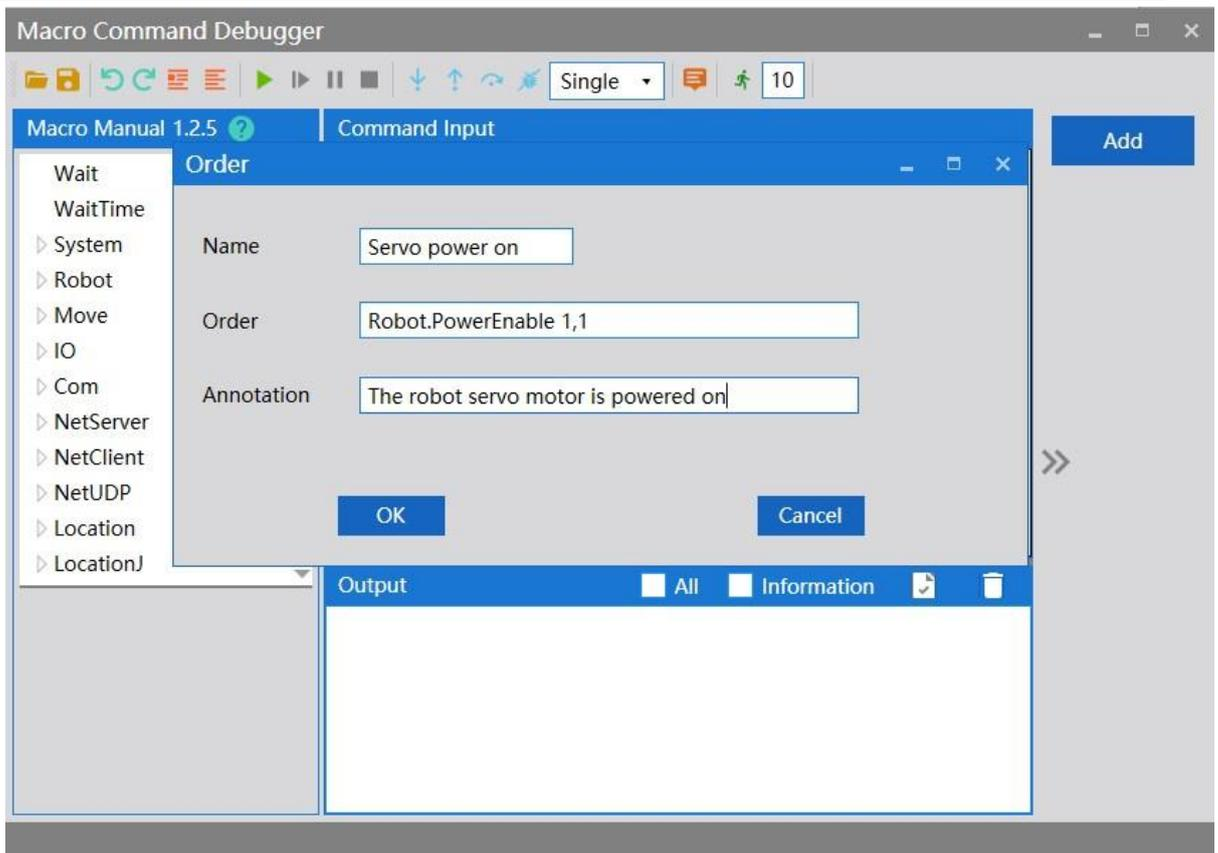

Figure 6-10 Customize the editing interface(ARM)
**Step 2** Click the < add > button on the right to open the operation instruction dialog box. Type the instruction name "servo power on", the operation instruction content "robot. Powerenable 1,1" and the comment "robot servo motor power on" in the input box of the interface to edit the required instructions, as shown in Figure 6-10.